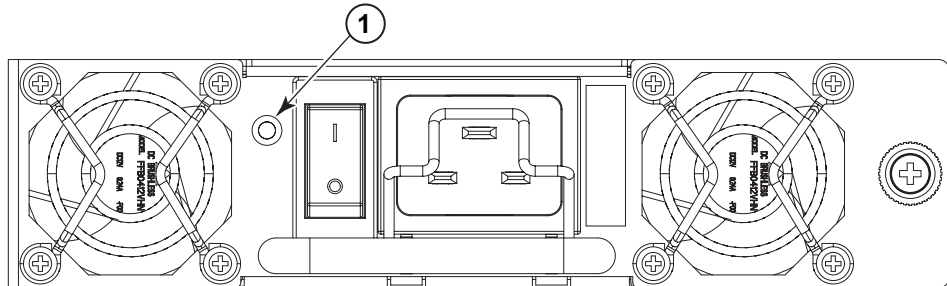

Figure 21. Power supply LEDs
1. Check the LED indicator on the power supply (see Figure 21 on page 51). The LED patterns may temporarily change during POST and other diagnostic tests; for information about how to interpret the LED patterns, see Table 9 on page 51.